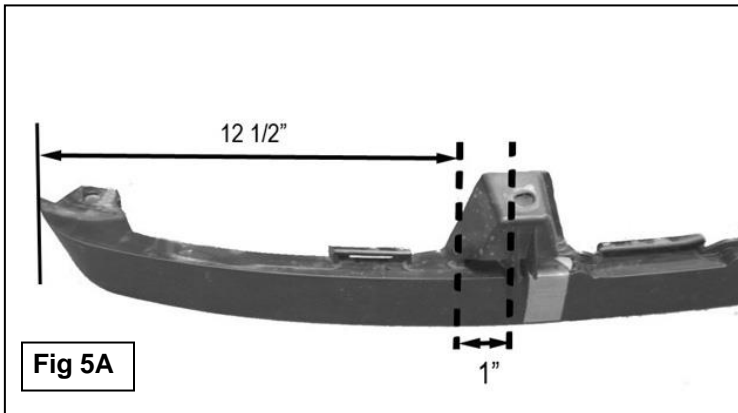

Fig 5A
8. Hold the air dam up in position to determine area to be cut to clear both Brackets, (**Figure 4**). Measure and mark 12-1/2" from the outside and towards the inside of each end of the plastic lower air dam, (**Figures 5A & 5B**). **NOTE:** Do not follow the contour of the air dam when measuring. Use a hacksaw to cut out a 1" gap on each marked location on the air dam. **NOTE:** The air dam will now be in (3) pieces. Re-install the air dam using the factory bolt and the clips.